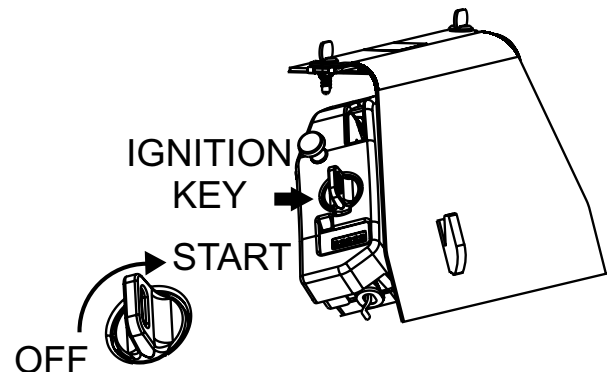

Figure 11. Ignition Key
5. Turn the ignition key (Figure 11) clockwise and listen for the engine to start. Once the engine starts release ignition key.